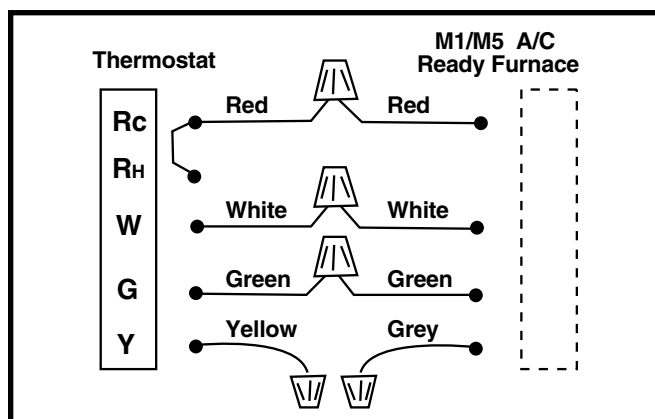

Figure 25. Thermostat Wiring For A/C Ready Models
Proper line voltage polarity must be maintained in order for the control system to operate correctly. Verify the incoming neutral line is connected to the white wire and the incoming "hot" line is connected to the black wire. The furnace will not operate unless the polarity and ground are properly connected as shown in Figure 25 \(page 15\).
2. Connect the thermostat wires to the furnace low voltage pigtails. See Figure 25.